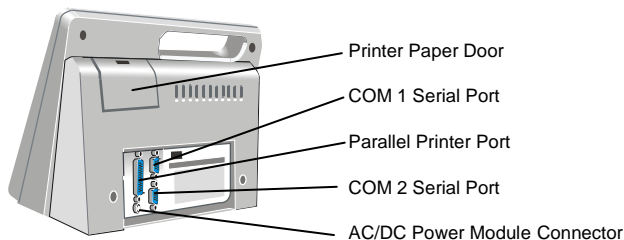

Figure 2. Location of Connectors
A PC-compatible laboratory computer and a serial or a parallel external printer can be used with the system. The connector ports for these devices are located at the rear of the instrument (Figure 2).
2. Connect one end of the printer cable to the port marked PRINTER (for a parallel printer) or COM 1 or COM 2 (for a serial printer) (Figure 2).
2. Connect one end of the cable to the port marked COM 1 or COM 2 (Figure 2).
2. Connect the AC/DC Power Module cord to the Power connector (Figure 2).